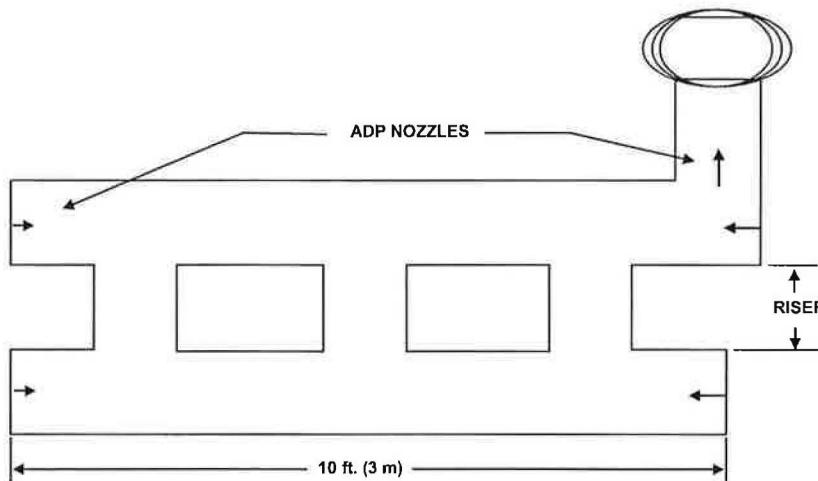
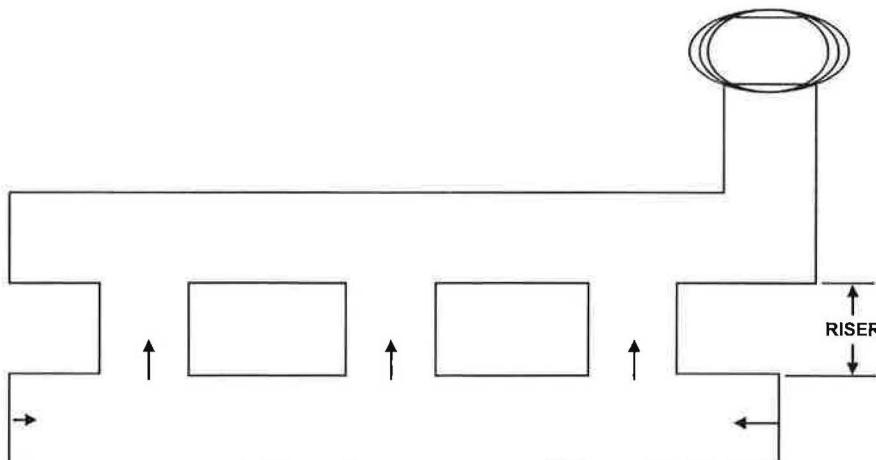

Figure 3-33. Special Plenum Arrangements
Figure 3-34. Special Plenum Arrangements With 6 in. (152 mm) Risers
1. If risers are less than 6 in. (152 mm), nozzles are required to protect the upper and lower plenums and in the main exhaust duct. (See Figure 3-33 and Figure 3-34).
2. If risers are 6 in. (152 mm) or longer, the risers become the exhaust ducts and there is no upper plenum. Nozzle(s) are required in the lower plenum and also in each such riser. The riser portion is to be treated now as the hood duct opening and protected accordingly. (See Figure 3-34).